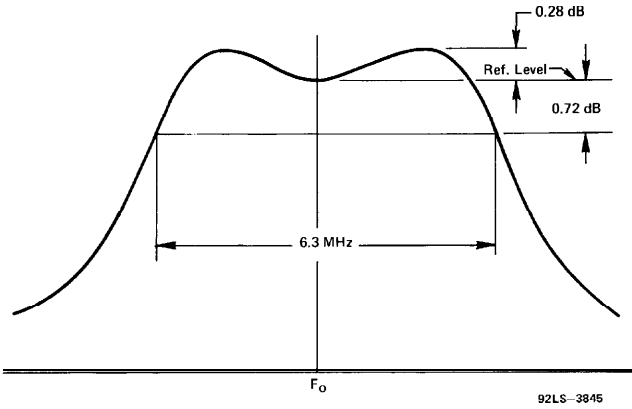

Figure 2 - Bandwidth Characteristics
- r The bandwidth of 6.3 MHz is calculated at the -0.72 dB power points of a double-tuned output circuit using two times the tube output capacity and a damping factor of  $\sqrt{1.5}$  as shown in Figure 2.